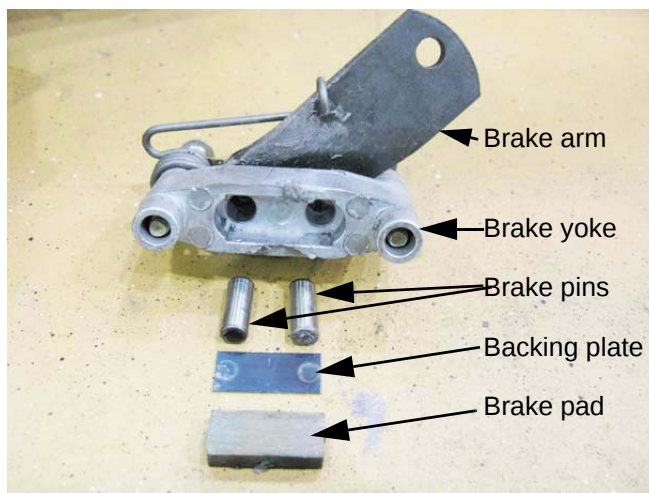

Figure 6.91
- 6e. Disassemble and inspect the brake yoke. See Figure 6.91.